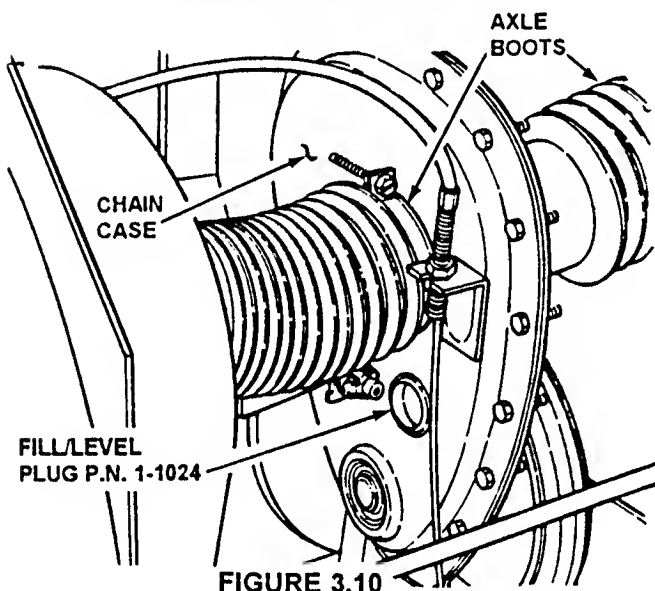

FIGURE 3.10
- Check fill/level plug for damage. If signs of wear or cracks are visible, replace plug with new plug. See Figure 3.10.
- To check lubricant in chain case, remove fill/level plug and look for lubricant on the internal components of the chain case. If no lubricant is visible, add SNAPPER "00" grease as needed. See Figure 3.10.
Check axle boots for signs of wear or cracks. If cracks or wear are visible, contact a SNAPPER dealer for service. Refer to Figure 3.10.